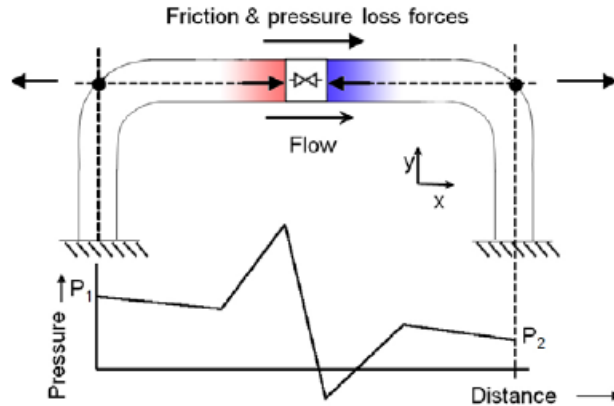

Figure 1: Difference force type schematic. For Difference Exit, the area used at End Node is user defined
- **Difference** - Difference forces are defined as the unbalanced force between two nodes, or computation stations along two sequential pipes. An example of this is the pneumatic loading between two elbows along the length of a pipe. See Figure 1 below.